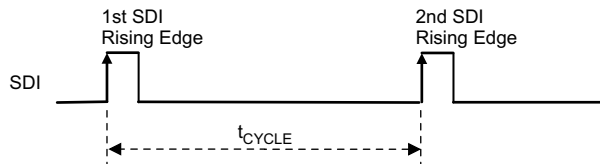
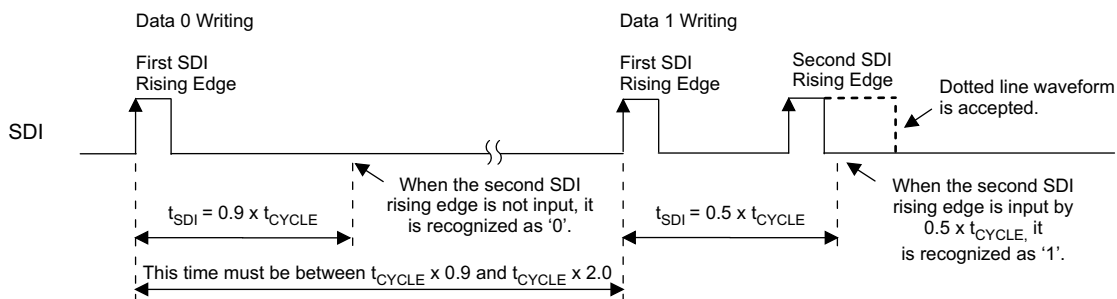

Figure 14. Data Transfer Rate (t_{CYCLE}) Measurement
Figure 15. Data '0' and '1' Write Operation
The TLC5973 measures the time between the first and second SDI rising edges either after the device is powered up or when the GS data latch sequence is executed (as described in the GS Data Latch Sequence \(GSLAT\) section) and the time is internally stored as t_{CYCLE} . t_{CYCLE} serves as a base time used to recognize one complete data write operation, a 48-bit data write operation, and a GS data write operation to the GS data latch. t_{CYCLE} can be set between $0.33 \mu\text{s}$ and $10 \mu\text{s}$ ($f_{CLK(SDI)} = 100 \text{ kHz}$ to 3000 kHz). In this sequence, two instances of data '0' are written to the LSB side of the 48-bit shift register. Figure 14 shows the t_{CYCLE} measurement timing.
When the second SDI rising edge is not input before $0.9 \times t_{CYCLE}$ elapses from the first SDI rising edge input, the data are recognized as '0'. When the second SDI rising edge is input before 50% of t_{CYCLE} elapses from the first SDI rising edge input, the data are recognized as '1'. This write sequence must be repeated 46 times after the t_{CYCLE} measurement sequence in order to send the write command to the higher 10-bit (3AAh) and 36-bit GS data. Figure 15 shows the data '0' and '1' write timing.
2. Write the 48-bit data packet (MSB-first) for the first device using t_{CYCLE} and the data write sequences illustrated in Figure 14 and Figure 15. The first 12 bits of the 48-bit data packet are used as the write command. The write command must be 3AAh (001110101010b); otherwise, the 36-bit GS data in the 48-bit shift register are not copied to the 36-bit GS data latch.